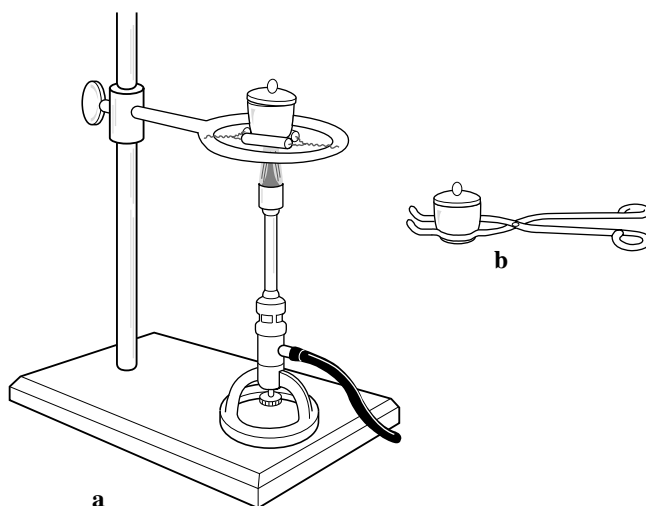

Figure 15.1
2. Place the crucible and cover in a clay triangle supported by a metal ring on a ring stand (Figure 15.1). Heat the crucible with a Bunsen burner to red hot for 5 min. Using crucible tongs, place the crucible and cover on a wire gauze and allow it to cool to room temperature.
3. Weigh the crucible and cover to the nearest 0.001 g (1).
4. Repeat this procedure (heating, cooling, weighing) until two successive weights of the covered crucible agree to within 0.005 g or less (2).